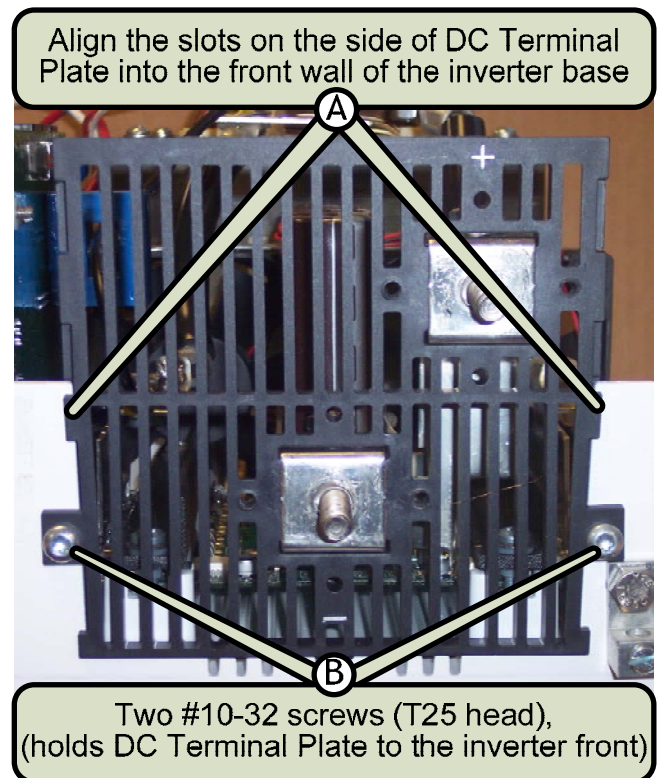

Figure 4, Front-of the DC Terminal Plate
3.1.4 Remove the two #10-32 screws (T25 head) holding the DC terminal plate to the front wall of the inverter base (see figure 4, item B).
3.2.1 Slide the new DC terminal plate down the front wall of the inverter base; make sure the slots on the side of the new DC terminal plate are aligned correctly (see figure 4, item A).
3.2.3 Screw in the two #10-32 screws (T25 head) that hold the front of the new DC terminal plate to the inverter base (see figure 4, item B).